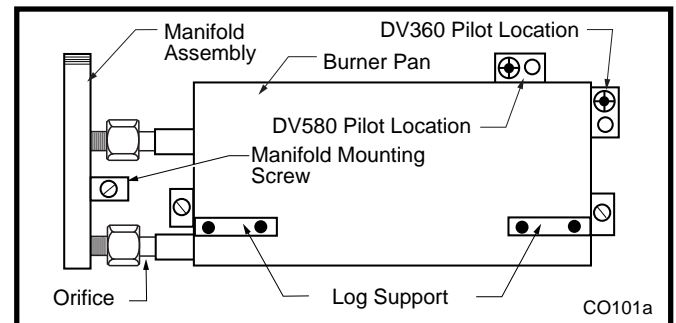

Fig. 57 Remove manifold assembly.
1. Remove manifold mounting screw from burner. (Fig. 57)